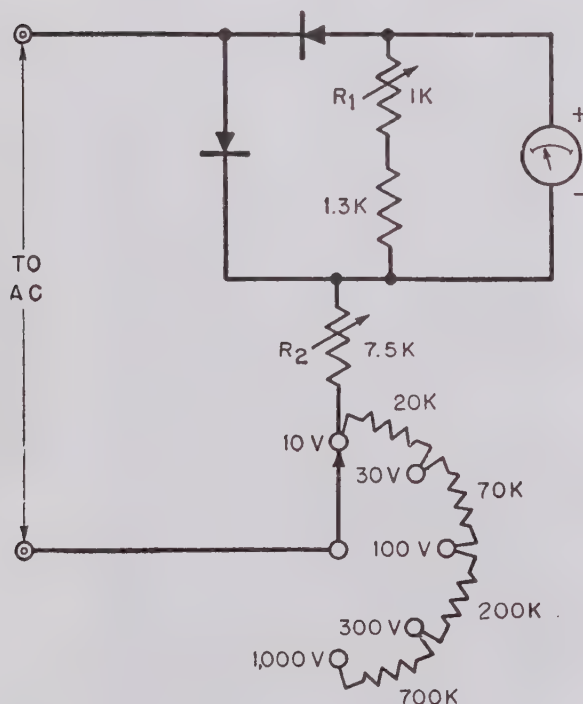

Figure 29. Typical commercial circuit of copper-oxide rectifier meter, 1,000 ohms per volt.
- (6) Meter circuits can include one or more variable resistors to compensate for rectifier variations when the rectifier unit is changed (R_1 and R_2 in fig. 29). A known a-c voltage is applied and the